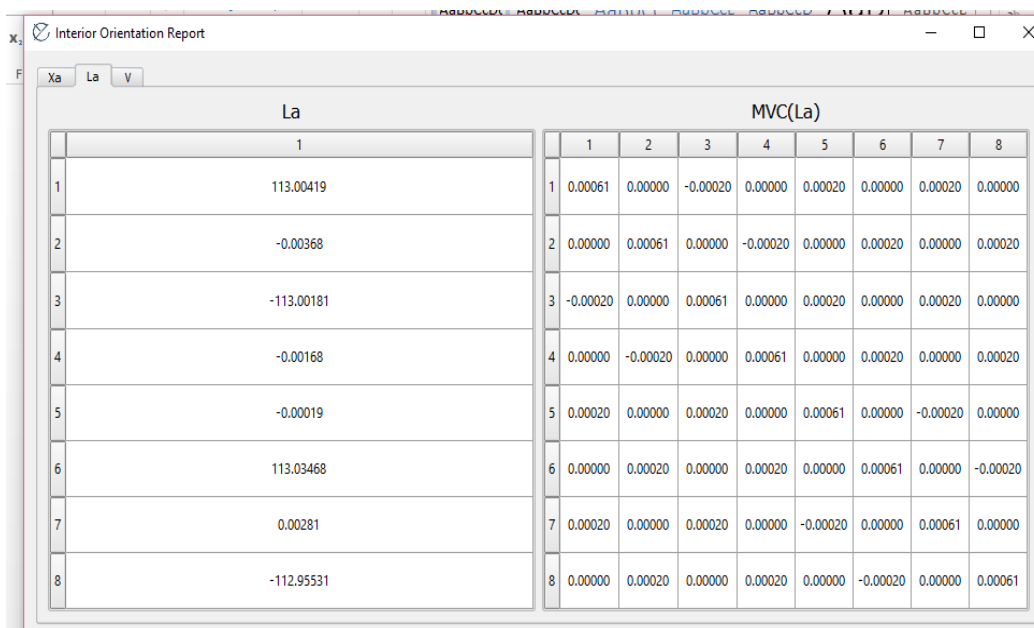

Figure 9 – Results of the IO
- II. Figure 9 shows the vector of adjusted observations (L_a) and its variance-covariance matrix ($MVC(L_a)$);